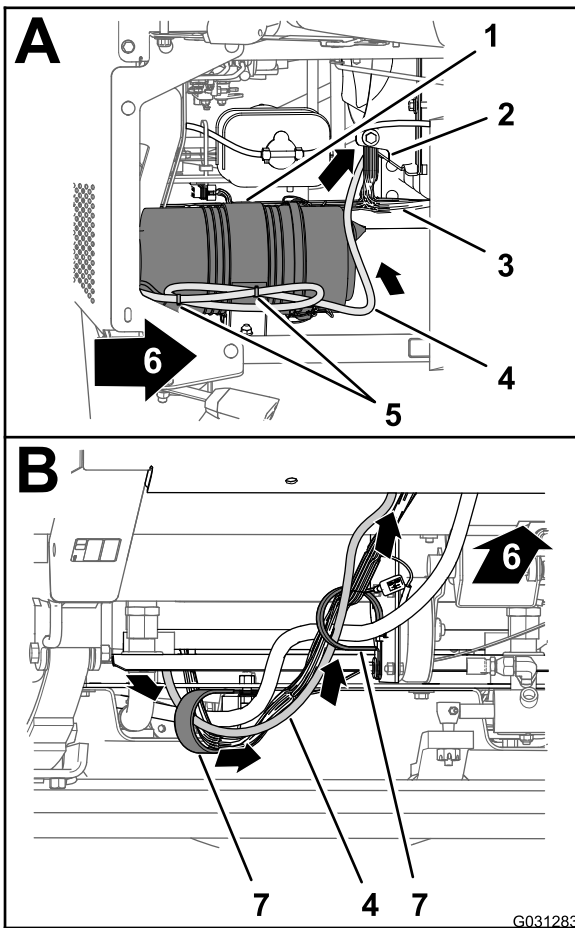

Figure 174
- At the right side of the engine compartment, route the 220 cm (86-5/8 inches) branch of the data harness forward of the air filter for the engine and down toward the lower right corner of the radiator (Figure 174).
2. Route the route the 220 cm (86-5/8 inches) branch of the data harness forward and through the 2 R-clamps at the bottom of the machine (Figure 174).